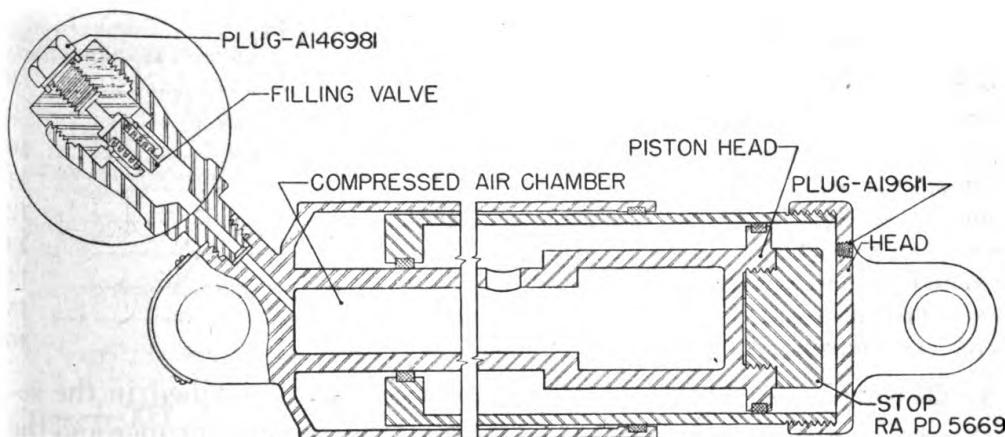

FIGURE 11.—Equilibrator.
(3) If the pressure gage indicates a loss in pressure, soap suds should be applied to all thread connections of the equilibrator to discover possible leaks at the connections. If the connections are tight and the gage still indicates loss of pressure, the grease seals are not functioning properly, and the equilibrator should be returned to an arsenal or base shop for repair.
b. *To relieve accumulated air in the head.*—With the gun at zero degrees, remove the plug (A19611, fig. 11) from the rear head of the equilibrator; elevate to maximum elevation and replace the plug. Be sure the plug is tight.